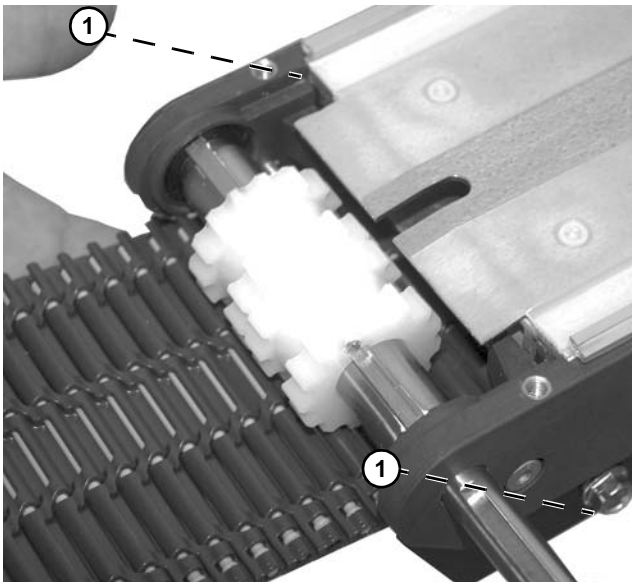

Figure 36
7. Remove belt by pulling belt out of bottom wear strips (Figure 36, item 1).